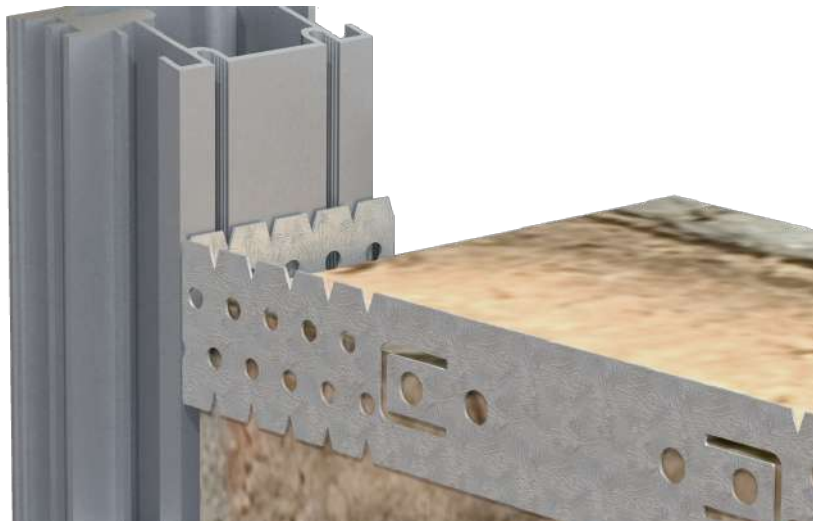

fig. 16
- Mounting plates are fixed on the back side of the door frame (3 pieces for each jamb) before the door frame installation into the door opening. Then, the plates are bent and fastened to the face surface of the wall (fig. 16).